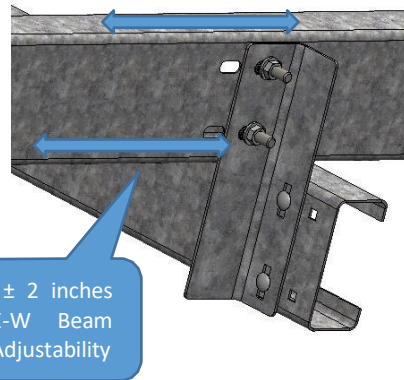

Fig. 7-3
- East – West Beam: ± 2 inches (50 mm) (Fig. 7-3)